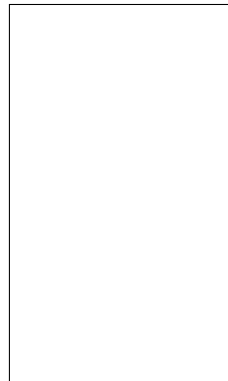

Figure 5: Schematic of the connection between Arduino UNO and the MCP4921.
1. Using Fig. 5 as a reference, connect the Arduino UNO to the MCP4921 DAC. Connect VDD to 5 V and both $AVSS$ and \overline{LDAC} to ground. A $0.1\ \mu\text{F}$ and $1\ \mu\text{F}$ capacitors could be used at $VREF$ to minimize noise at the reference. Connect the UNO with the computer using the USB cable, which is used both to program the UNO and power it up. It is very important to keep your circuit (ICs, resistors, capacitors, wires, etc) organized. Use as short of a wire as possible between two connection points. Refer to Fig. 6 for an example layout.